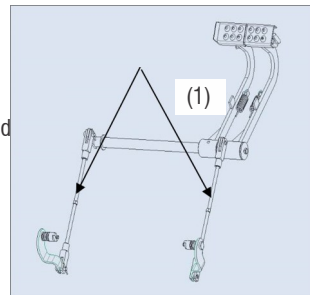

Fig.5.55
4. Unscrew the check nut (1) (Fig.5.55). Slowly, tighten the adjuster (1) (Fig.5.55) until you can no longer turn the wheel by hand.
5. Make a reference mark on the adjuster nut (Fig.5.55) and on the support, then slacken off the adjuster nut by 1 turn, i.e. until the wheel can be freely turned.
6. Now lock the adjuster with the relative check nut (1) (Fig. 5.55). Check that the brake pedal has a free travel of 15-20mm and repeat the adjustment if necessary.
7. Repeat the same procedure for the other side (Fig. 5.55).